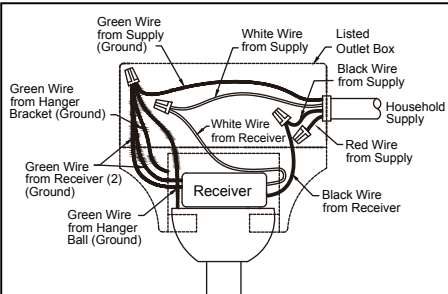

Figure 5
- ☐ 5. Thread downrod into the downrod support on top of the motor. Install the clevis pin by aligning the holes in the downrod support with holes in the downrod. Secure clevis pin with hairpin clip. Tighten the two set screws with nuts in the downrod support. Securely tighten the set screws with screwdriver then fully tighten the nuts by hex wrench. (Figure 5)
- ☐ 4. After connections have been made, put the white and green leads to one side and the black leads towards the other side, the connection should be turned upward and carefully push leads into the outlet box. The wires should be spread apart with the grounded conductor and the equipment-grounding conductor on one side of the outlet box and the ungrounded conductor on the other side. (Figure 5)
- ☐ 5. To set the remote code in the same positions as the receiver, use a small screwdriver or ball point pen (neither included) to slide dip switches firmly up or down. (Figure 5)